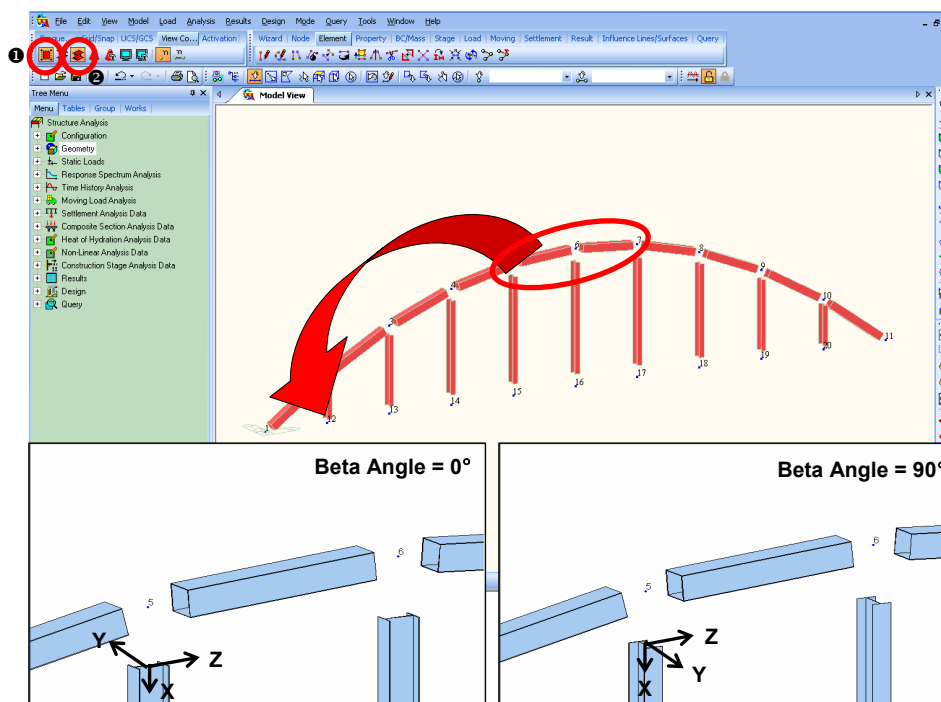

Figure 4.10 Modification of the Beta Angle for Hangers
The **hanger web** direction is modified to be perpendicular to the bridge longitudinal axis as shown in Figure 4.10 (also refer to the section on **Beta Angle** in the Online Manual).
Click **Shrink** (Figure 4.10①) and  **Hidden** (Figure 4.10②) (Toggle on) to check the entered **Beta Angle**. Check the current data entries and click  **Shrink** and  **Hidden** to toggle off.